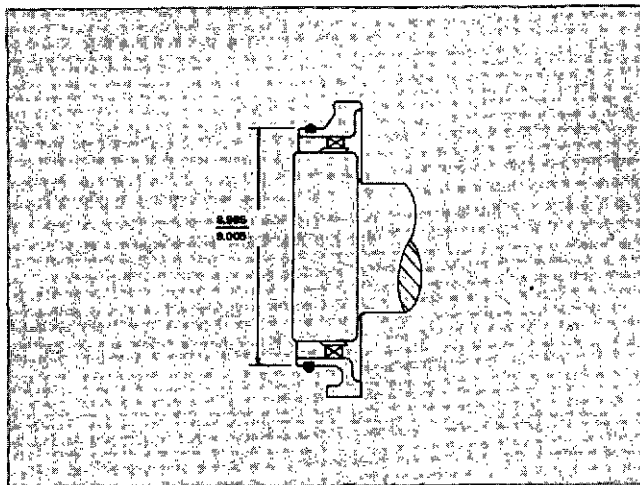

Fig. 1-4-8, V40184. Wear sleeve installed
11. The rear oil seal now rides on a wear sleeve on the crankshaft, Fig. 1-4-8. All crankshafts with rear flange of the design shown should have the wear sleeve replaced when a new rear cover seal is required.